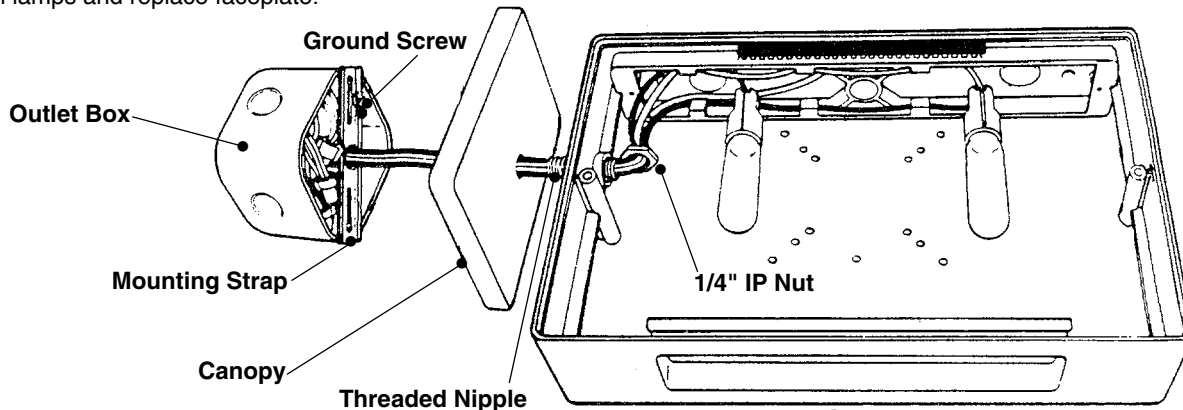
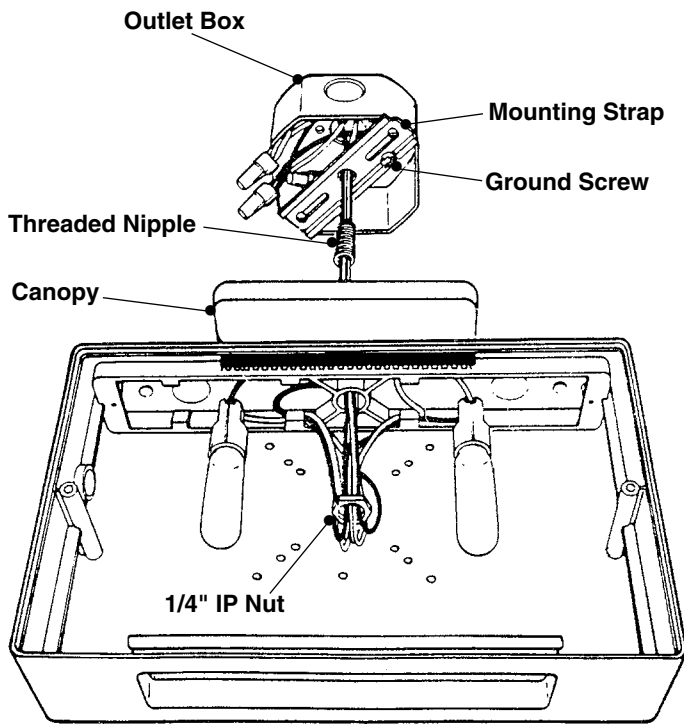

Fig. 2
Fig. 3
See sections for Back Mounting (FIG. 1), End Mounting (FIG.2). and Ceiling Mounting (FIG.3).
- 3.) Install mounting strap to wall box as shown in Fig. 2.
- 6.) Secure lead wires and ground wire to the wire retainers provided near the inside top of the housing (see Fig. 2).
- 4.) Install mounting strap to outlet box as shown in **Fig. 3**.
- 8.) Secure lead wires and ground wire to the wire retainers provided near the inside top of the housing (see **Fig. 3**).